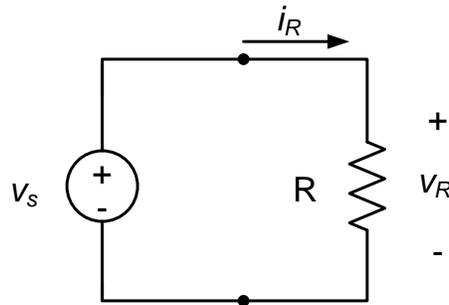
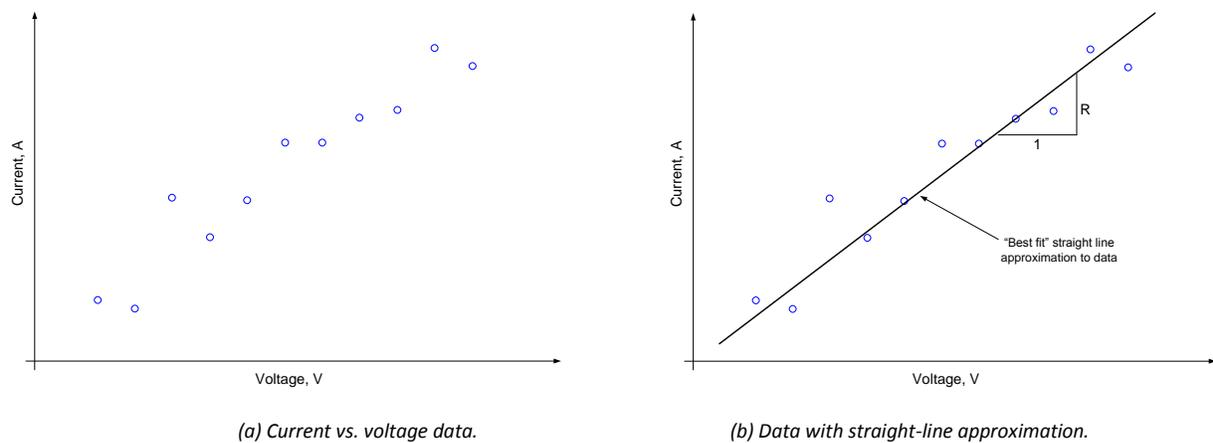

Figure 1. Circuit schematic.
Figure 2. Measured data with “best fit” straight-line approximation.
In order to experimentally determine the current-voltage characteristic for our resistor, we will use the circuit shown schematically in Figure 1. The arbitrary waveform generator will be used to apply the voltage v_s . We will measure the voltage across the resistor, v_R , and the current through the resistor, i_R , using our DMM. By varying v_s , we can measure a set of values for v_R and i_R and plot v_R vs i_R , as shown in Figure 2(a). The slope of the line that "best fits" the measured data can then be used to estimate the component's resistance, as shown in Figure 2(b).
1. Connect the circuit shown in Figure 1. Use a 100Ω resistor and one of the AWG channels for the variable supply. Use an ohmmeter to measure the actual resistance of your resistor and record the value in your lab notebook.
Experimental data will always contain some uncertainty, so measured current-voltage data for a resistor will never lie exactly on a straight line – see, for example, Figure 2. Thus, the notion of a “best” straight-line approximation to the data is rather nebulous. It is simplest to draw by eye a straight line through the plotted data. This approach, while used fairly often, has the drawback that no two engineers are likely to draw the same straight line. Thus, we look for a more objective and readily quantifiable approach toward fitting a line to a set of measured data. One common approach toward determining a line which provides a “best fit” to the available data is *least squares curve fitting*. The basic idea behind the least-squares approach toward fitting a curve to data is as follows: